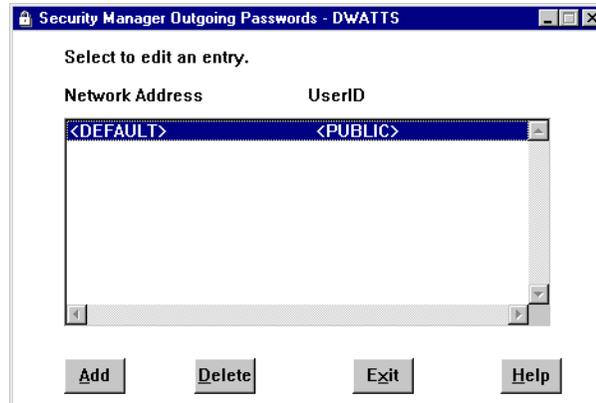
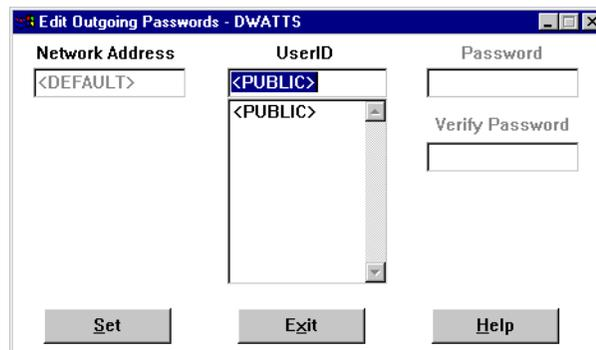
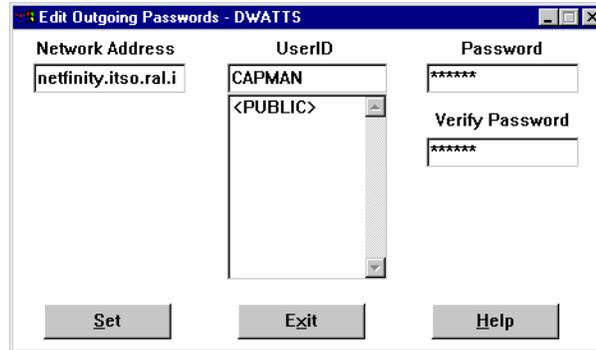

Figure 122. Outgoing Passwords on the Local System
Figure 123. Editing the Default Outgoing Password
Figure 125. Adding a Specific Password for a Specific Server
From the Security Manager main window, double-click **Edit/Display Outgoing Passwords**. Figure 122 appears:
This is the easiest way to set security, as it involves only one change. In Figure 122, double-click the <DEFAULT> Network Address. Figure 123 appears:
4. Click **Yes**. An entry will then be added to your Outgoing Passwords list (Figure 122 on page 161).
1. In the Outgoing Passwords list (Figure 122 on page 161), click the **Add** button. Figure 125 appears: